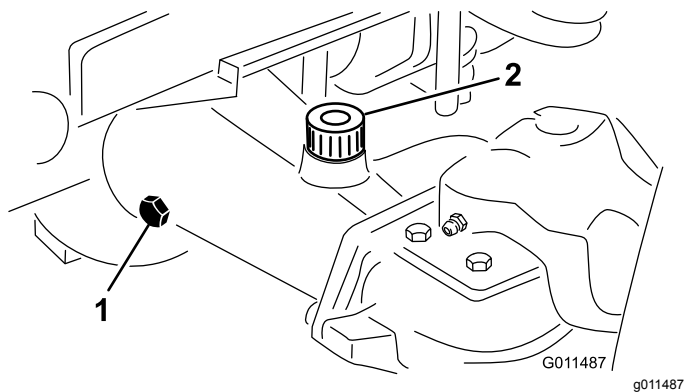

Figure 94
2. Remove a check plug from the end of the axle and ensure that the lubricant is up to the bottom of the hole (Figure 94).